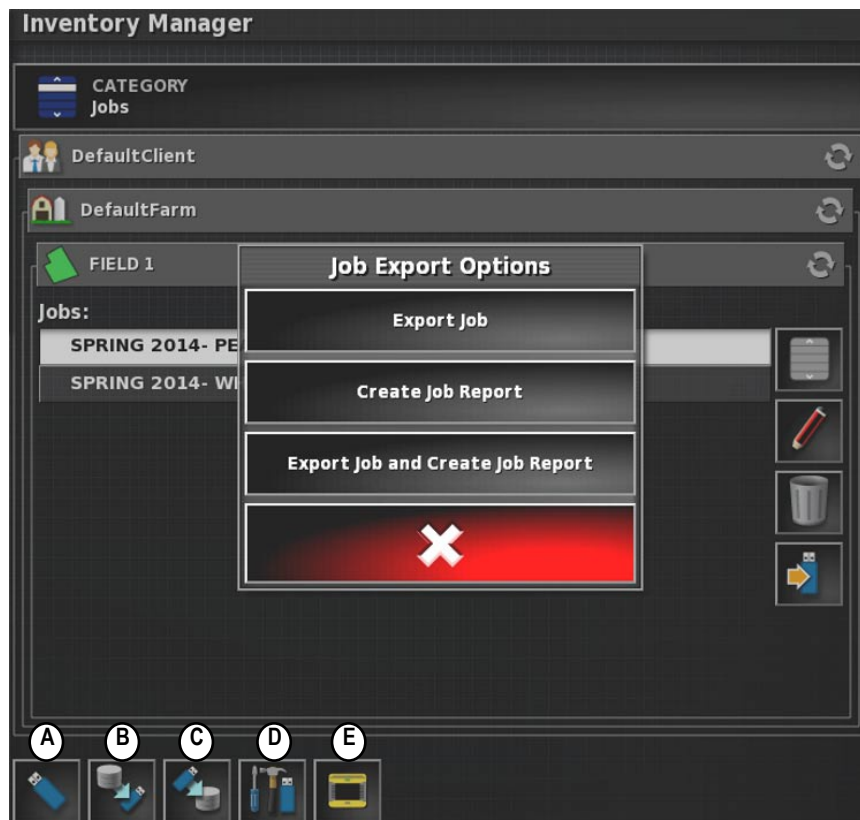

Figure 10.24 - Job Export Options
- For the Jobs item list when this category is selected it will bring Job Export Options menu with following options (refer to *Figure 10.24*): Export Job, Create Job Report, Export Job and Create Job Report. Use this to create job reports and get coverage shapefiles for completed jobs. To Create Job Report a GPS signal is required.